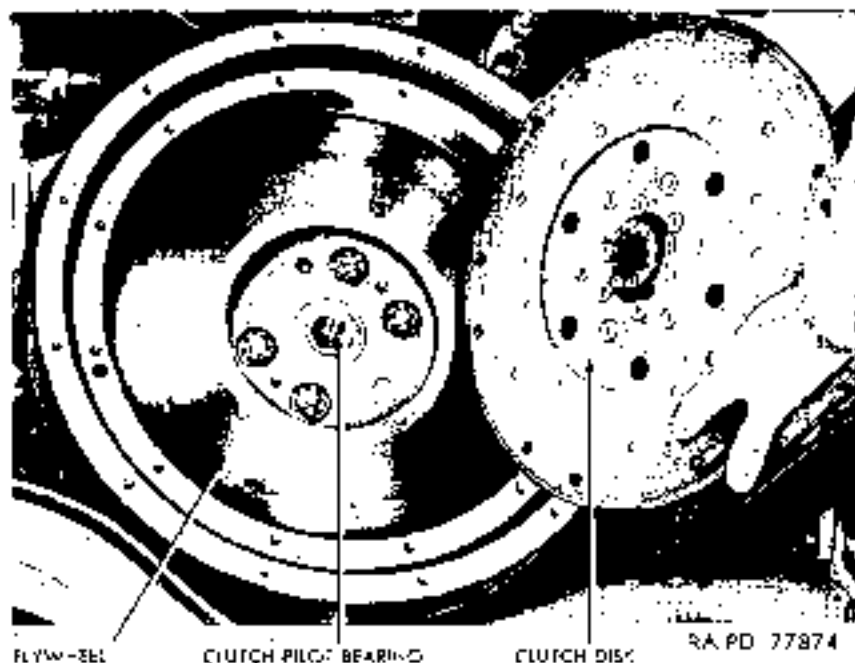

Figure 27.1 Clutch disk and pilot bearing.
- d. REMOVE CLUTCH PILOT BEARING. Remove clutch pilot bearing from seat in engine flywheel (fig. 27.1).
a. INSTALL PILOT BEARING (fig. 27.1). Care must be taken when installing clutch pilot bearing into engine flywheel. Bearing must be seated perfectly in order to maintain alignment of main drive gear, clutch disk, and pilot bearing. Pack bearing with lubricant (par. 16). Use a clutch pilot if available. If pilot is not available, carefully tap clutch pilot bearing into seat in flywheel with brass drift. Open side of bearing must face toward engine. Make certain bearing is started into flywheel evenly before forcing it fully into seat.
b. **INSTALL CLUTCH DISK** (fig. 27.1). Place clutch disk against engine flywheel. Tapered ends of splines in disk hub must face away from flywheel. A pilot may be used for alignment of disk with clutch pilot bearing. If a pilot is not available, proper alignment can be obtained after installation of pressure plate assembly.